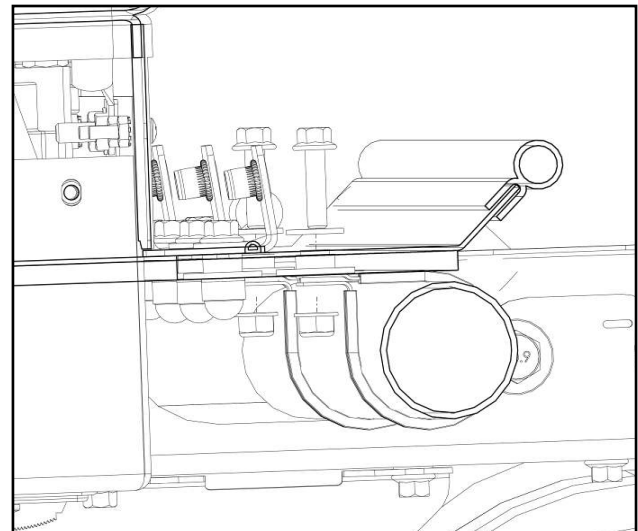

Fig. 12.3 Install P-Clamps onto ROPS
12.3 Install P-clamps onto the vehicle's ROPS per fig. 12.3. Next, loosely install all fasteners to the roof so that the smaller diameter plastic washers are under the heads of the screws and the larger diameter steel washers are between the P-Clamps and headliner.